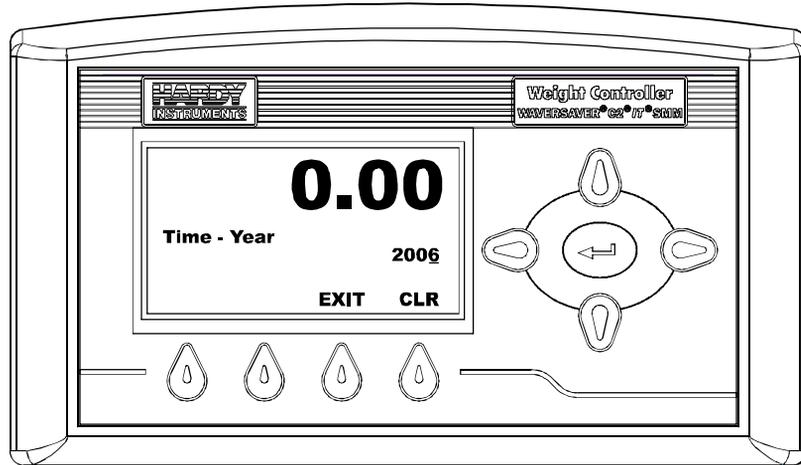

FIG. 99 TIME - YEAR MENU
Step 4. Press the Enter button. The Time-Year Menu appears. (See Fig. 99) The present Year is displayed.